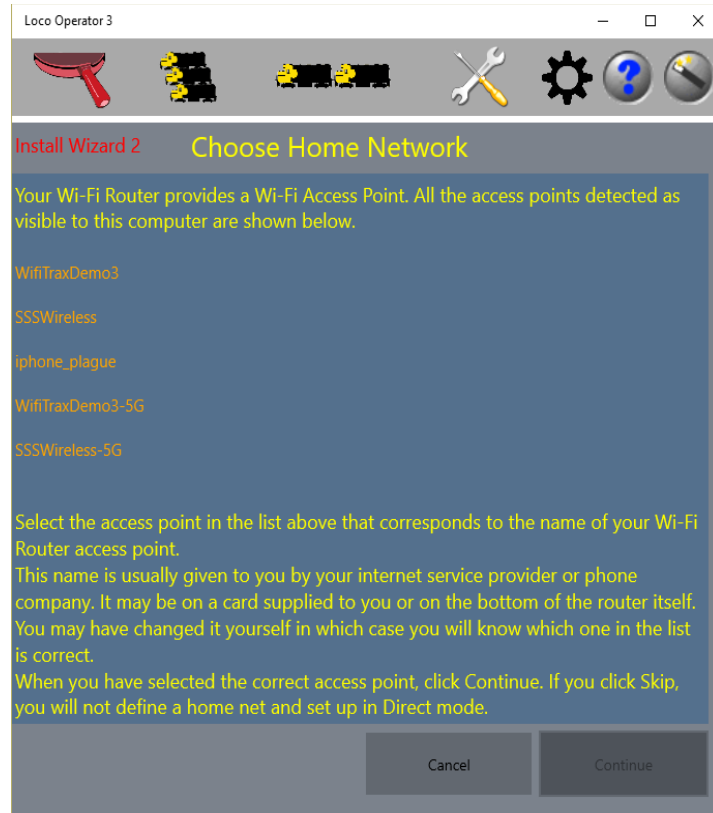

Figure 42 Selecting a Wi-Fi Access Point for your Home Net
- (3) Install Wizard 2 is now displayed as in Figure 42. Select the network in the list that corresponds to the name of your home Wi-Fi access point. This is called the SSID. You will be using the same SSID when you connect your phone or tablet to your home Wi-Fi network. Select the correct network and click Continue.